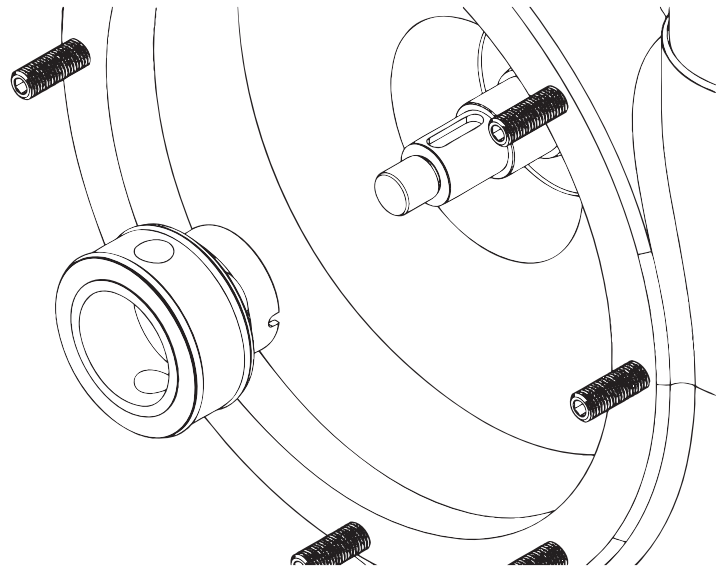

Figure 26
9. Remove the stationary seal once pushed out of its bore. The double seal may also come out with the stationary seal if the pump has this option. See *figure 26*.